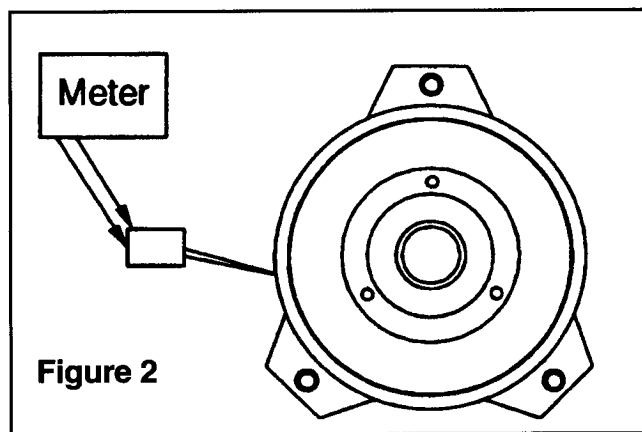

Figure 2
4. Connect meter lead wires to the wires in the clutch connector (see figure 2).